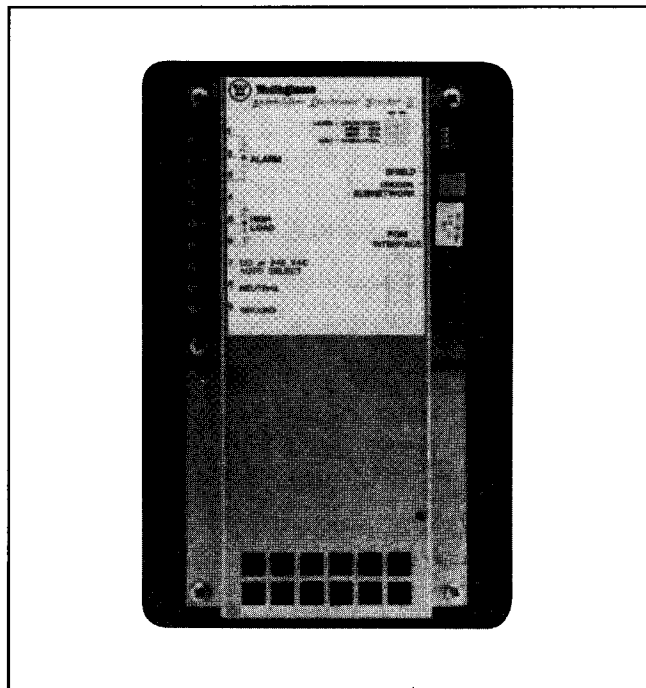

Figure 2.2 — Rear Access Area
Study Figure 2.2 and note the following items:
2.1.3 External Hardware — Each AEM II requires that a customer-supplied 120 or 240 Vac 50/60 Hz supply be wired into the 9 point Terminal Block located at the upper left rear of the AEM II (see Figures 2.2 and 5.2).